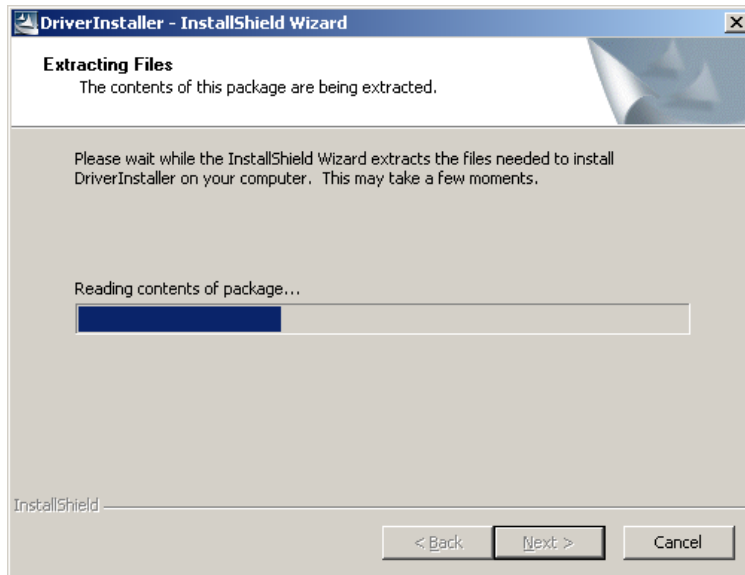

Figure 7-20: InstallShield Wizard Extracting Files
Step 9: Click **NEXT** to accept the default folder and begin extracting files (Figure 7-20).